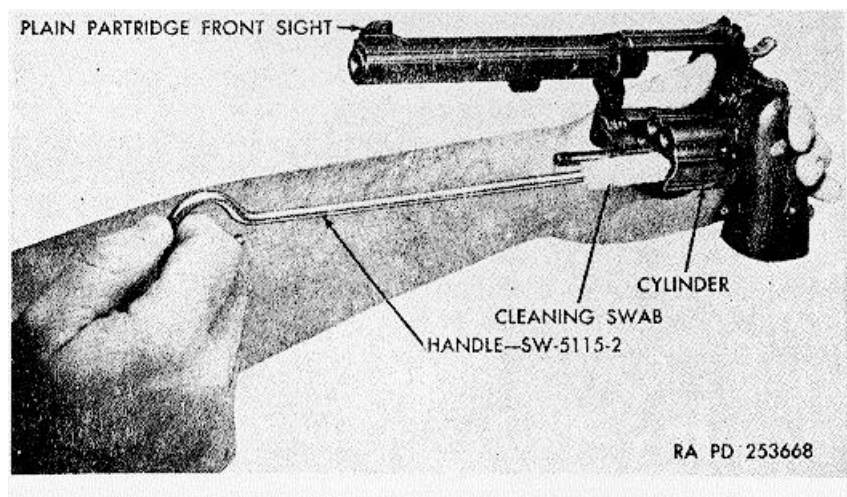
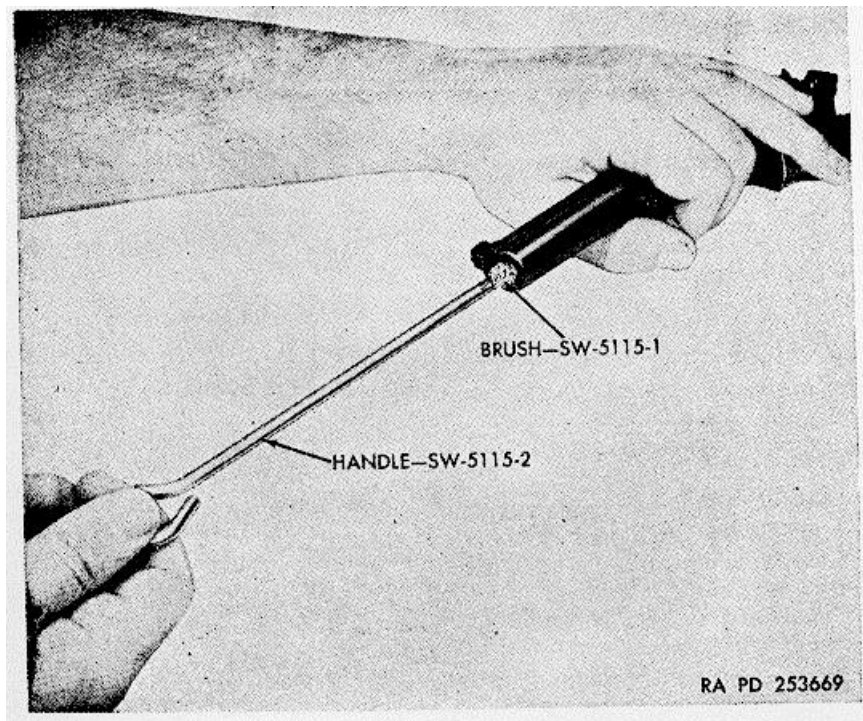

Figure 44. Cleaning cylinder (Smith and Wesson).
Figure 45. Cleaning barrel (Smith and Wesson).
- (2) *Bore and chamber of Smith and Wesson revolver.* Attach cleaning swab (fig. 44) to the handle SW-5115-2 (fig. 44) and dip in rifle-bore cleaner. Move the swab back and forth several times in the bore of the barrel and in chamber of the cylinder (fig. 44). If rust or foreign matter is not removed, attach brush SW-5115-1 (fig. 45) to the handle and run the brush several times through the barrel (fig. 45) and cylinder. A light coating of rifle-bore cleaner should be allowed to remain in the bore and chamber between cleaning.